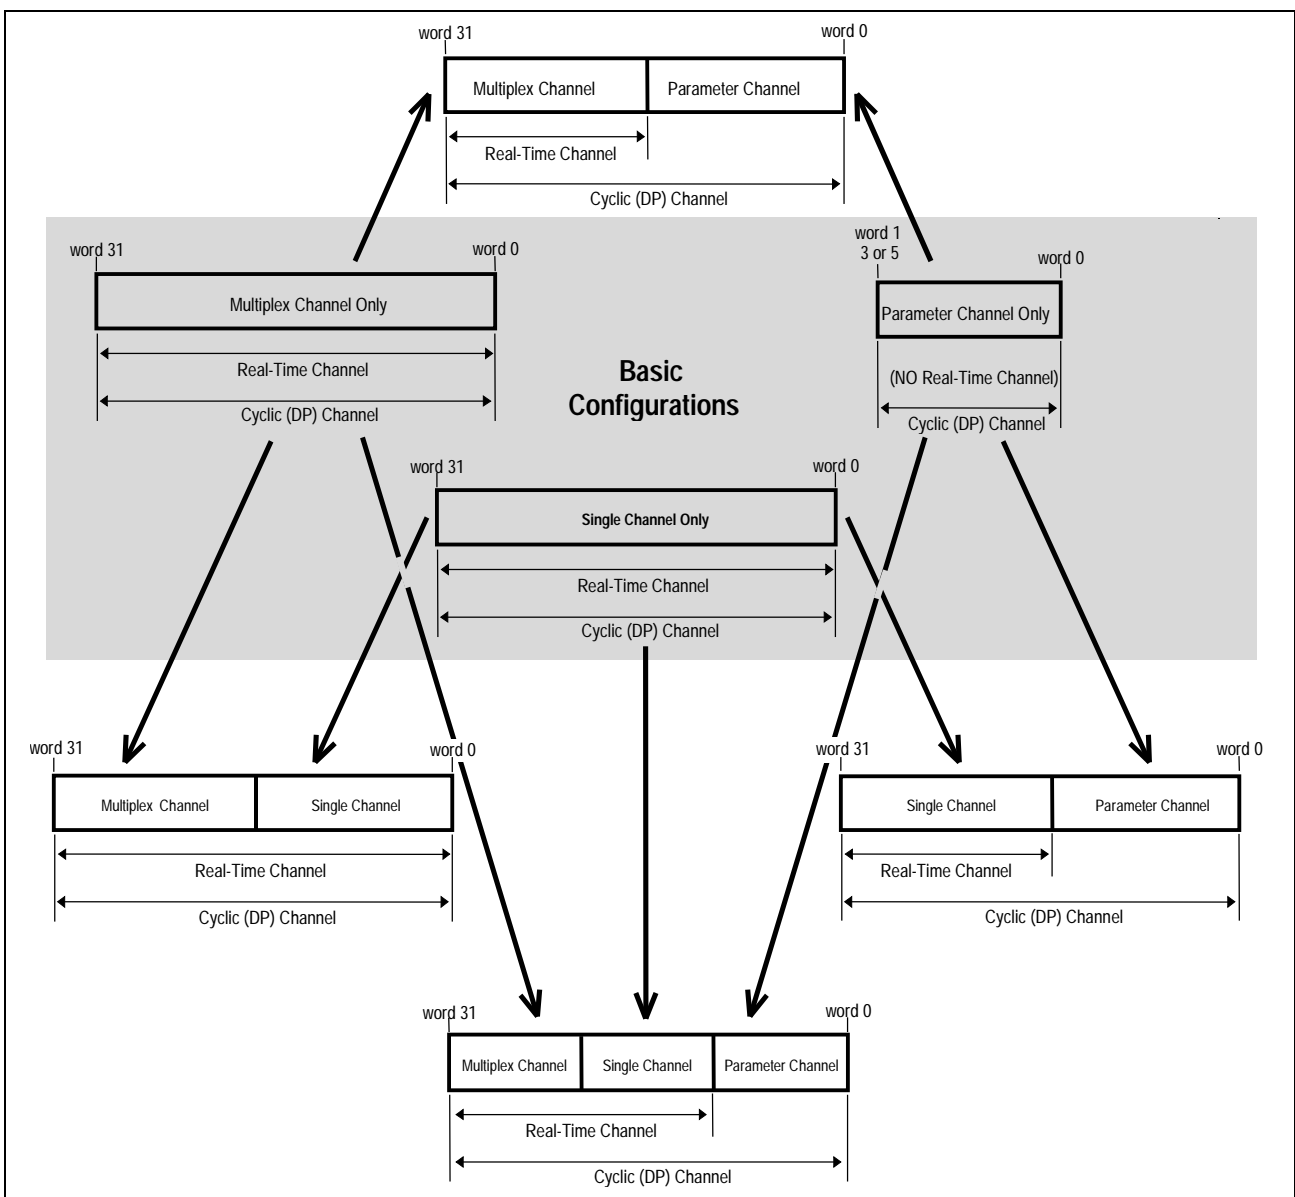

Fig. 7-94: Configuration Options for the Cyclic Data Channel
Note: The Parameter Channel is always allocated as the first 2, 4 or 6 words of the Profibus cyclic (DP) channel. The length of the Parameter Channel plus the length of the Real-time Channel used to exchange cyclic data represents the entire length of the DP channel (maximum total length: 64 words). Refer to Fig. 7-94 for DP channel configuration options.